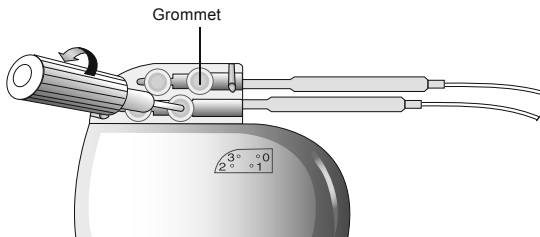

Figure 5. If needed, insert hex wrench in silicone rubber grommet and turn setscrew counterclockwise to back out setscrew.
- c. If a setscrew obstructs the socket, back out the setscrew (Figure 5) only until the connector pin can slide in without force and then retighten.